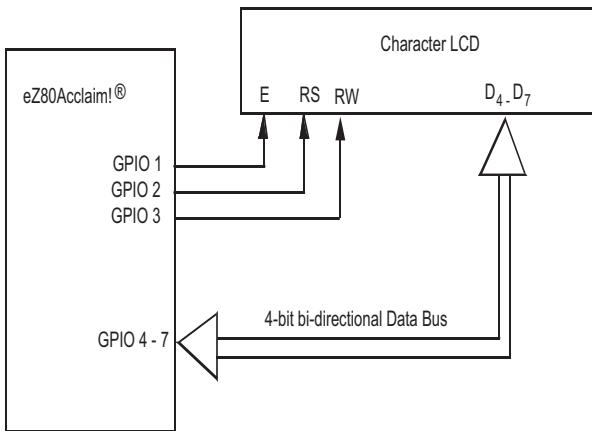

Figure 2. An LCD Interface with the eZ80Acclaim! MCU
A block-level scheme of the LCD Interface with an eZ80Acclaim! MCU is displayed in Figure 2. The interface utilizes the HD44780 controller's 4-bit mode; therefore only seven GPIO pins are required for connecting to the LCD's signal and data pins.
- The LCD Module is connected to the eZ80Acclaim! MCU as displayed in Figure 2 on page 4. The GPIO pins are set up as per the configuration in the `LCD_API.h` header file.